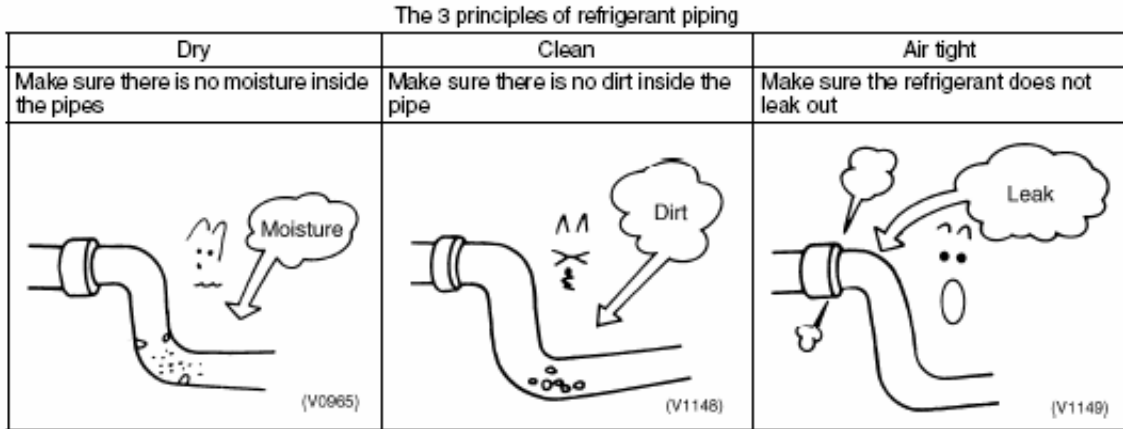

Figure 3-1-1
- ◆ Tighten the flare nut with a torque spanner until the torque spanner makes a click, as shown in Figure 3-1-1. Moment needed for tightening a nut is shown in Tab. 3-1-1.